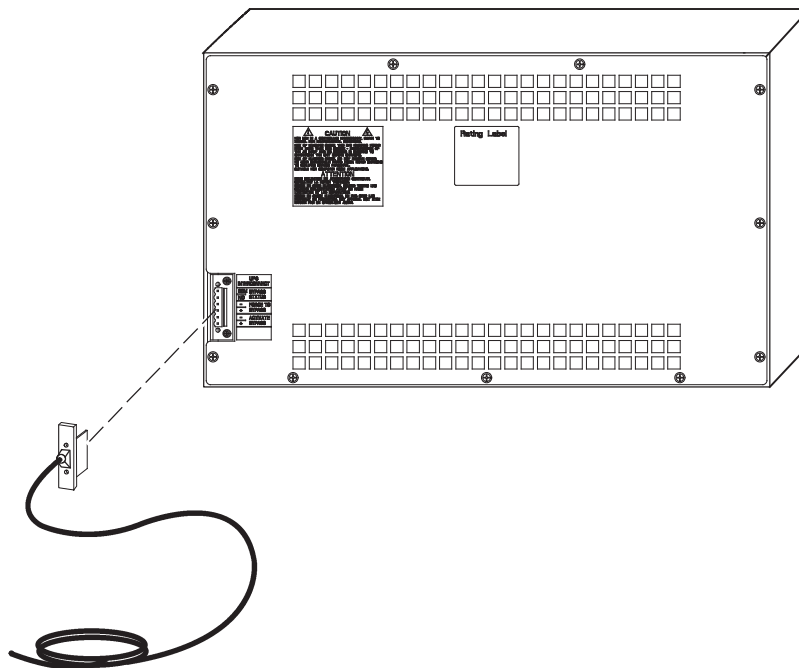

Figure 18. Installing Signal Cable
1. Plug the signal cable into the signal connector (see Figure 18).